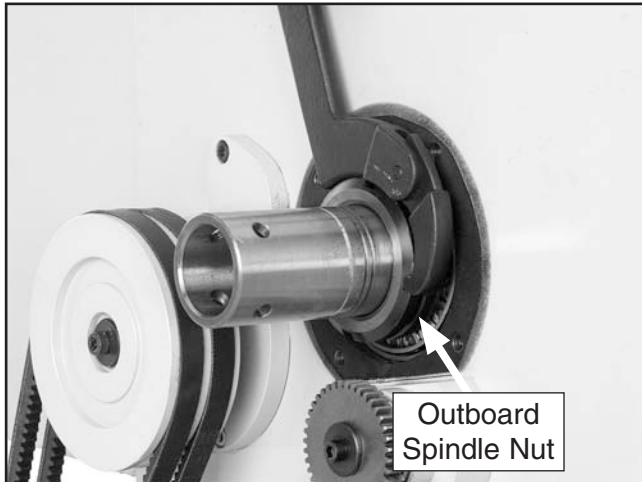

Figure 54. Loosening outboard spindle nut.
5. Using a spanner wrench, or hammer-and-punch, loosen the outer spanner lock nut (**Figure 54**) counterclockwise and remove it.